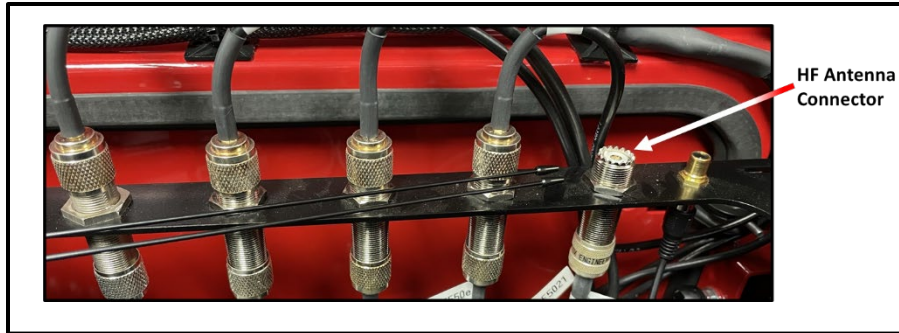

Figure 2. Antenna Distribution Assembly
- (1) 2.0 through 54 MHz
12. Connect the coax cable feeding the HF antenna system to the HF Antenna Connector located on the far right of the antenna distribution assembly. The assembly is located just below the computer monitor on the top right of the Command Runner. Refer to Figure 2 for connector location.